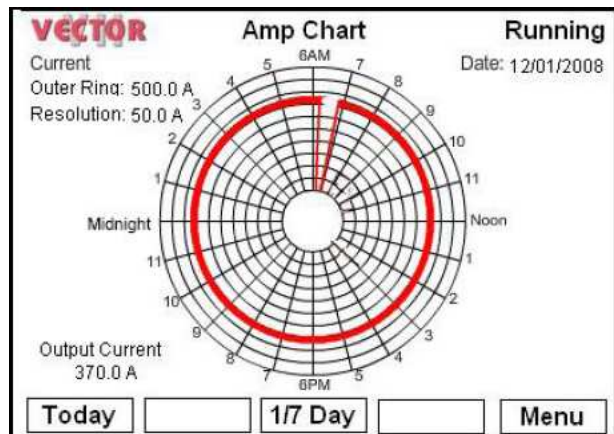

Figure 6
- Software Embedded Recording Ammeter with 1 or 7 day format. (See Figure 6)